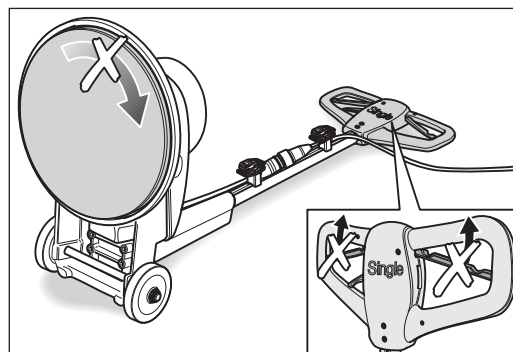

Fig. 10 Never switch on the machine unless it is in the working position and the sanding plate is placed flat on the floor!
- The machine is in the working position and the sanding plate is placed flat on the floor (Fig. 10).